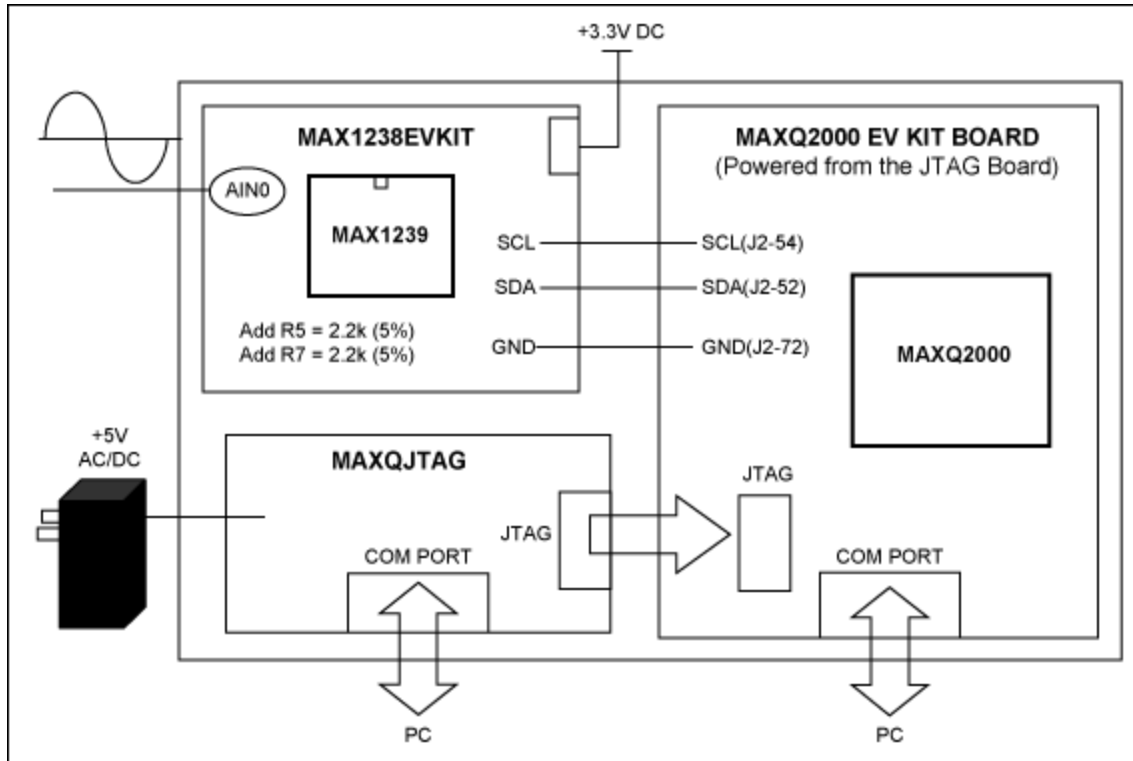
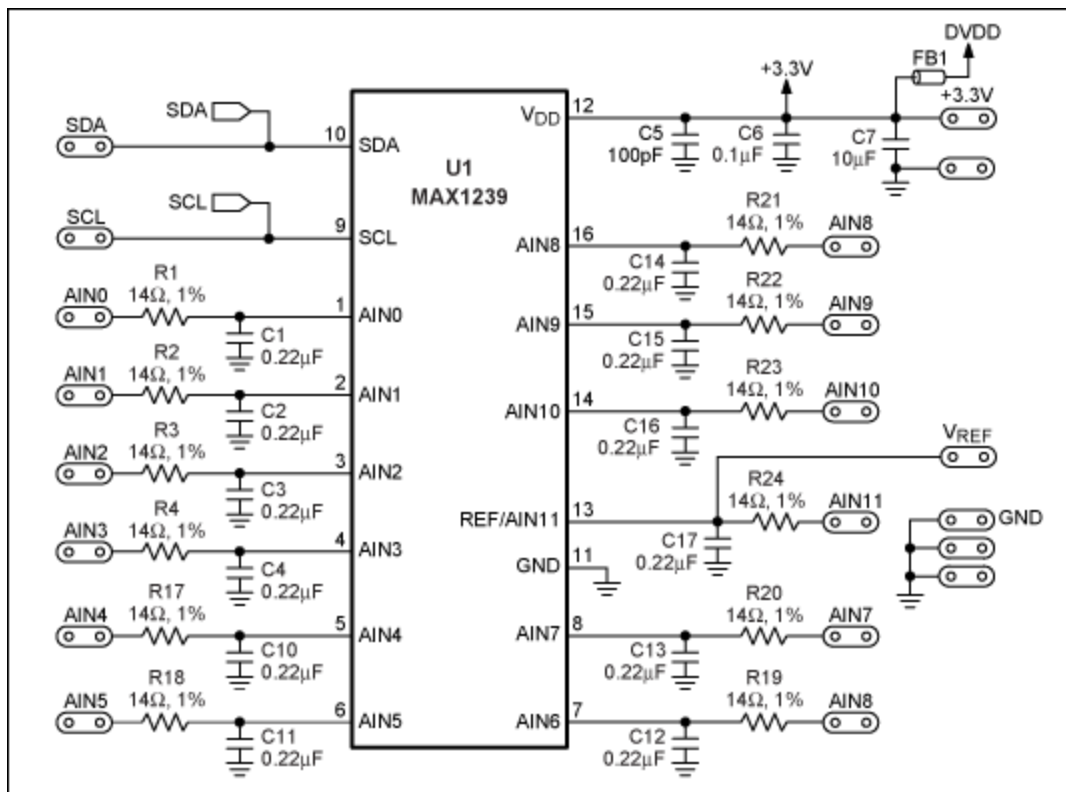

Figure 1. A simplified system block diagram.
Figure 2. Modified MAX1238 EV kit schematic using a MAX1239.
A simplified system block diagram is shown in **Figure 1**. The application circuit utilizes two evaluation (EV) kits: the MAX1238EVKIT with an installed MAX1239 (instead of a MAX1238), and a MAXQ2000-KIT. The MAX1239 was selected because of the digital-logic voltage range. The MAXQ2000 microcontroller's general-purpose input/output (GPIO) ports only accept up to +3.3V; using level translators with high-speed I²C would have made the circuit overly complicated. The MAXQ2000 is not present on the MAX1238 EV kit board, so it was added to the system by connecting SCL, SDA, and GND on both boards. In addition, it is very important to apply +3.3V (instead of +5V) to V_{DD} on the MAX1238 EV kit board. Order a free sample of the MAX1239EEE or MAX1239EEE+ and solder it onto the MAX1238 EV kit. The modified MAX1238 EV kit schematic is shown in **Figure 2**.